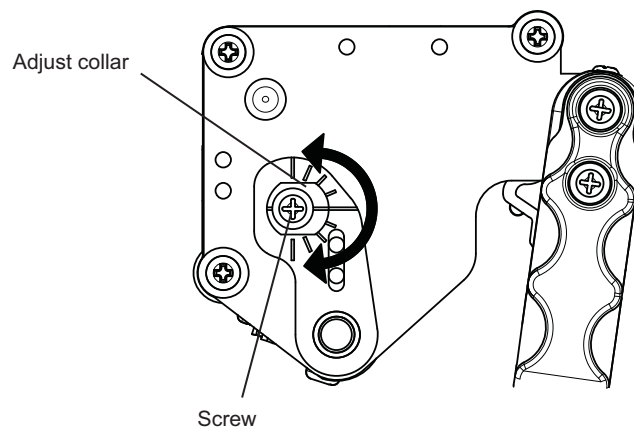

Figure 6-8, Print Head Adjustment
2. Loosen the screw indicated in Figure 6-8 with Phillips screwdriver. Do not completely unscrew.